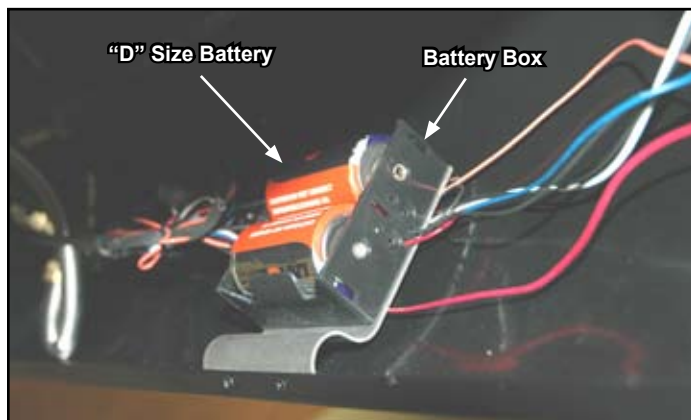

Figure 9
2. The battery box is factory installed as part of the control panel assembly attached to the front of the grill cabinet. See figure 9.